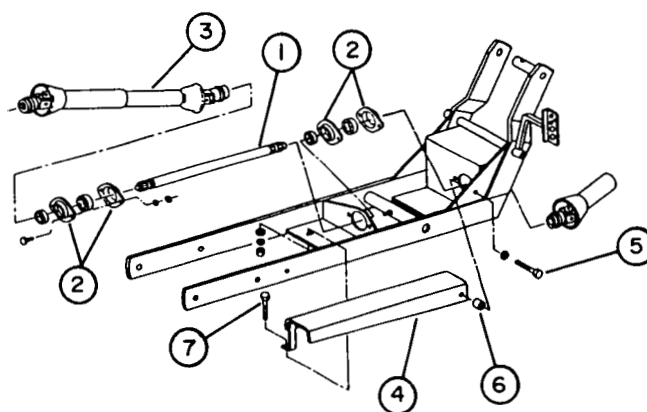

FIGURE 4
- a) Install  $19\frac{1}{2}$ " shaft (fig.4, item 1) in front section of subframe, using two 1" bearings, four bearing retainers (fig.4, item 2) (placed on rear side of cross plates), and four  $\frac{5}{16}$ " x  $\frac{3}{4}$ " carriage bolts, lockwashers and nuts. Install the two bearings and locking collars. Adjust shaft so that  $3\frac{3}{4}$ " extends from the rear cross plate. Lock the shaft in place by turning the eccentric collars in a clockwise direction (viewed from rear of subframe).
- b) Attach long end of driveline (fig.4, item 3) to the shaft in subframe by sliding back the locking collar on yoke and pushing driveline yoke over the shaft until the locking collar snaps back.
- c) Install driveline guard (fig.4, item 4) on the front section of the subframe using one  $\frac{5}{16}$ " x  $1\frac{1}{4}$ " bolt (fig.4, item 5), in the front hole, placing a lockwasher on the bolt, then placing the bolt through the subframe, then through a  $\frac{1}{2}$ " long sleeve (fig.4, item 6), and through the guard. Use a  $\frac{5}{16}$ " x 1" bolt (fig.4, item 7) to attach the rear guard bracket to the subframe, securing with a  $\frac{3}{8}$ " flatwasher, lockwasher and nut. Tighten securely.